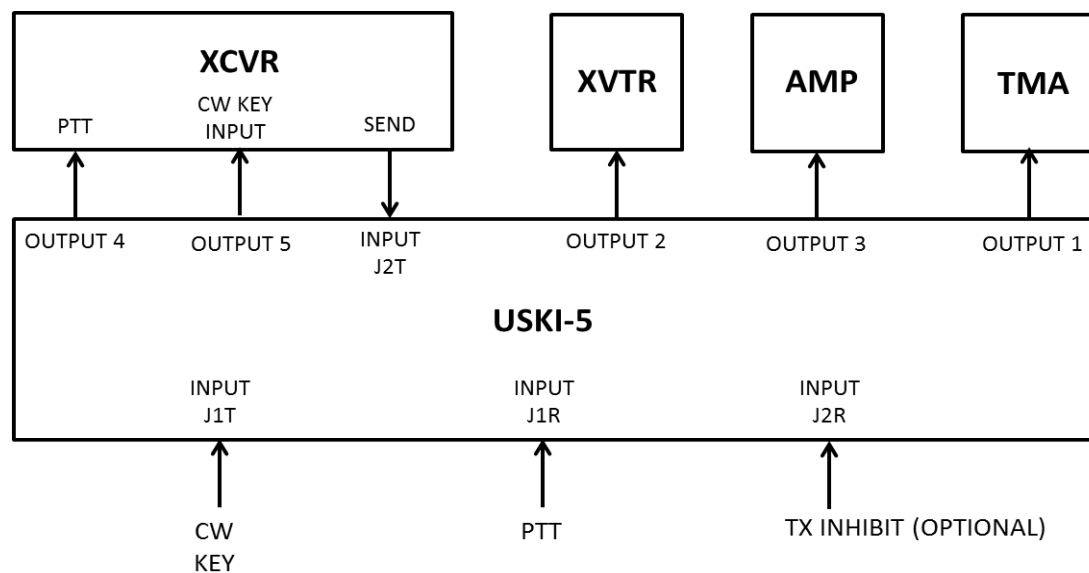

FIGURE 2
A station configuration suitable for control with Program (A) is shown in figure 2 (some components shown are optional and may not actually be used). In this case, PTT and CW keying is connected to inputs of the sequencer. Switching of all devices is thereby controlled by the sequencer. Note the output numbers and the functions or devices they control. The order is again chosen so that the TMA and transverter are first switched into a safe transmit condition before the transmitter/transceiver is keyed and the reverse order is followed when returning to receive. The actual order of output connections may be different if other types of devices are being controlled.
- **USKI-5 PROGRAM (D)** is similar to Program (A) and applies to stations configured as shown in Figure 2 but has no provision for CW break-in operation. In some applications the required sequencing delays are of sufficient length that CW break-in operation at any reasonable speed is not possible. In these cases Program (D) can be used with only PTT control of transmit-receive operation. CW keying is still connected to input J1T, as shown in Figure 2, but CW keying output from the sequencer is only applied to the transmitter if PTT is activated via input J1R. With no CW activation of the timing sequence, Program (D) only requires setting of PTT sequencing delays.